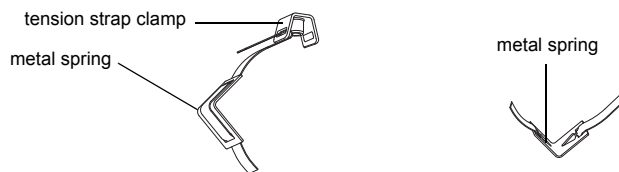

Fig. 7.8: Tension strap with the metal spring and the tension strap clamp
- If necessary, insert the long end of the tension strap into the metal spring (see Fig. 7.8). It is not necessary to mount the metal spring: